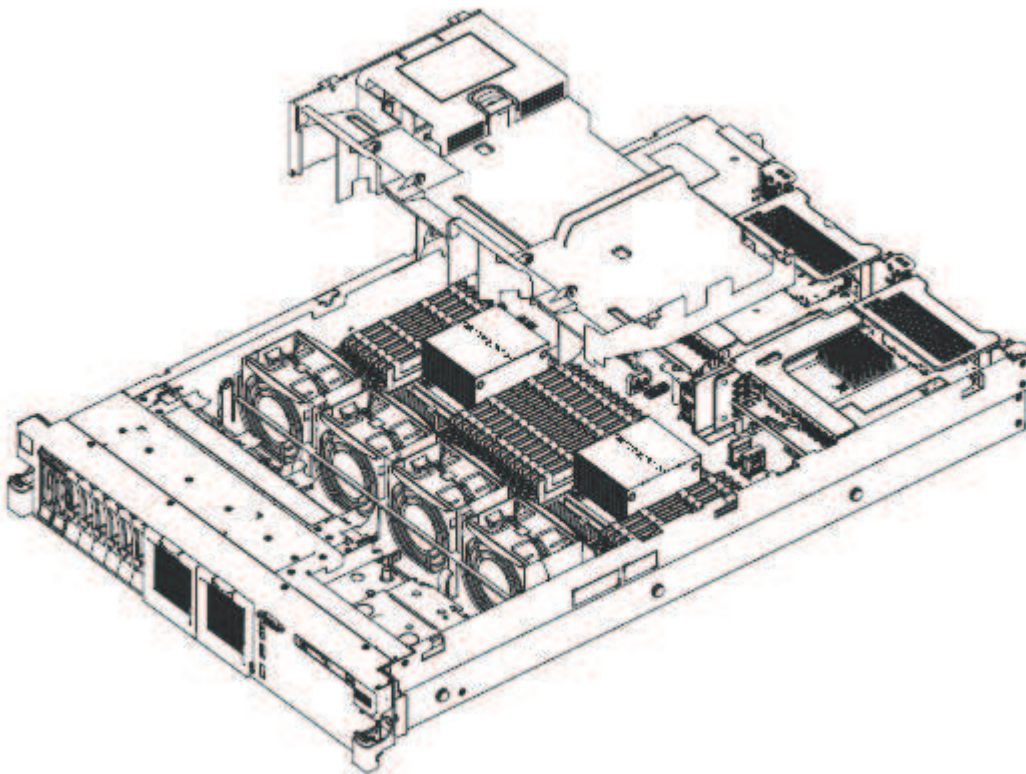

Figure 59. Removing the air baffle
2. Place your fingers under the front and back of the top of the air baffle. Then, lift the air baffle out of the server, as shown in Figure 59.